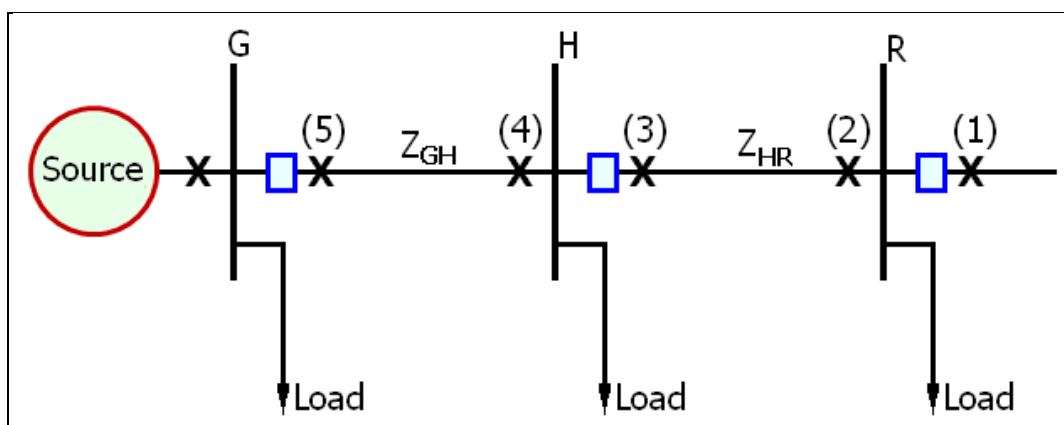

Fig. 2.6-1 A Typical Radial Feeder
Fig. 2.6-1 shows several sections of a typical radial feeder. Because the feeder is radial each section requires only one breaker at the source or distribution substation end. To clear faults at (1) and other faults to the right, only the breaker at R needs to be tripped. To clear faults at (2) and (3) on the line between them, the breaker at H must be tripped, likewise, to clear faults at (4), (5) and between them, the breaker at G must be tripped.
Time graded technique delays the operation of the relay for a remote fault, allowing relays and breakers closer to the fault to clear it, in Fig. 2.6-1, the relays at H will delay for faults at (1) or (2). If the fault is at (1) this delay will allow the R relays and breakers to operate before (H). Although (H) would not open for a fault at (1), unless the R relays or associated breaker failed, it would operate for a fault at (2). This technique, called coordination or selectivity, is designed to combine minimum operating time for the close in faults with a long enough delay for remote faults, the relays and breaker at R coordinate with those to the right. H must coordinate with R, and G. Relays are coordinated in pairs. If breaker (H) relay trip characteristic have already been coordinated with relays at R and beyond, the breaker at G must then be coordinated with those at H for the three critical fault points at (5), (3) and (2).